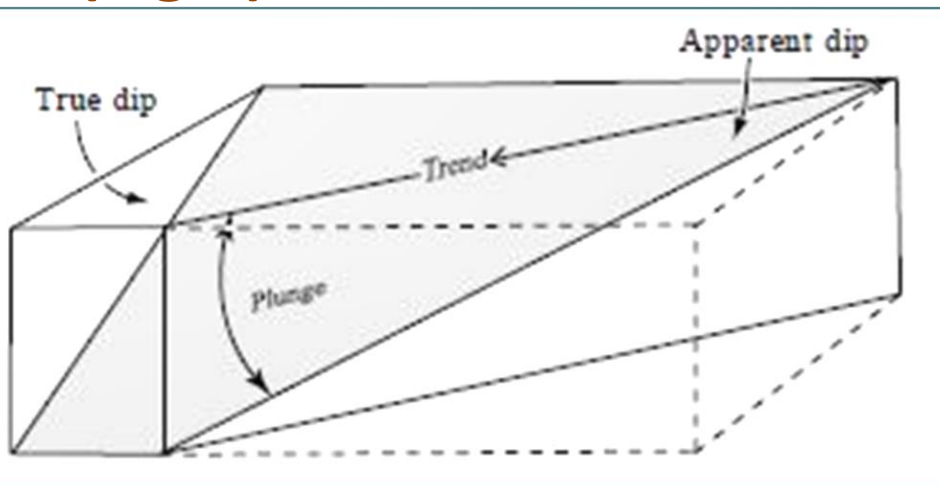

Fig.1 Trend and plunge of a line
**Trend: the bearing (compass direction) of a line. Non-horizontal line trends in the down-plunge direction (Fig.1).**
- **Plunge: the vertical angle between a line and an imaginary horizontal plane, as measured with an inclinometer in the vertical that contains the line (Fig.1).**